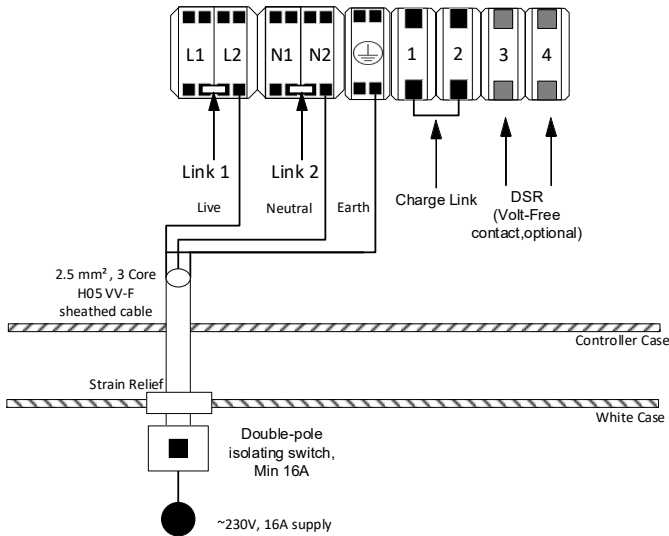

Figure 11 - Flextherm Eco G2 E Heat Battery wiring without solar power diversion
- o Without Solar Power Diversion follow Section 6.4.1, Figure 11.